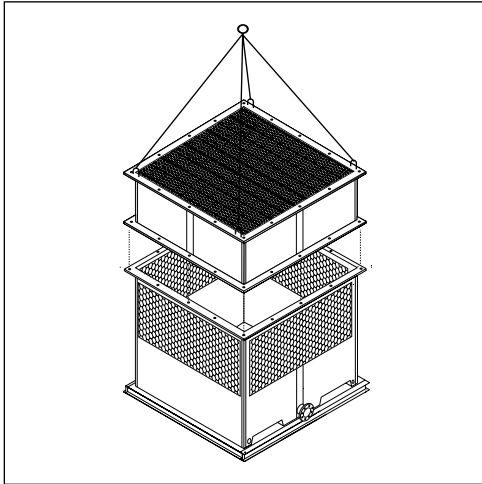

Figure A-8: Lower body installation for a Single Fan Tower (RT-D or RTP-D)
- J. **Only if your Tower is an RT-D or RTP-D model**, it includes an additional part of body section (Lower Body section). Place the Lower Body section on top of basin section, then bolt down and secure the horizontal flanges with the stainless steel nut and bolt sets supplied by REYMSA (see Figure A-8).